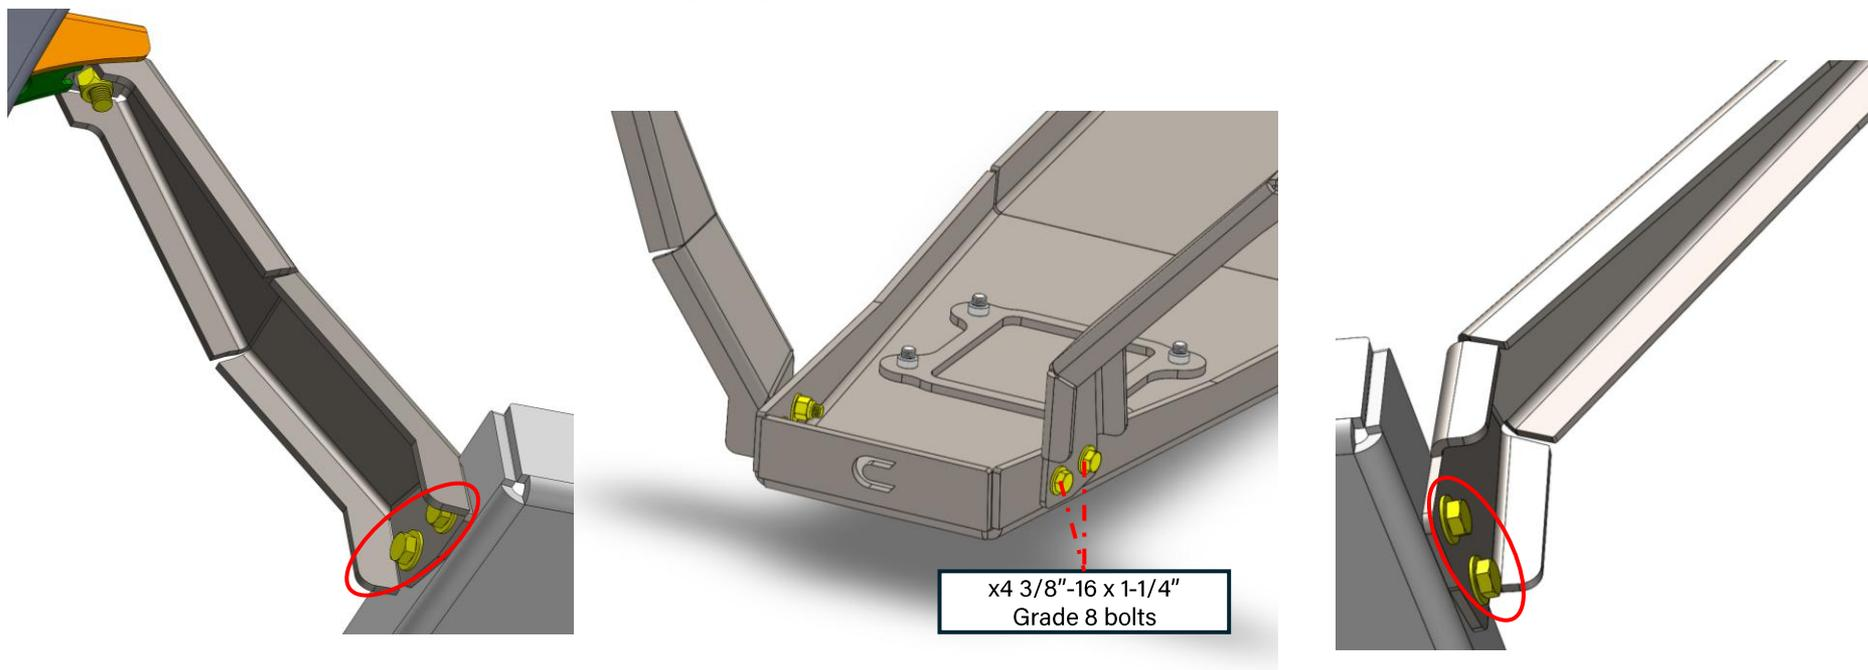

Figure 39: New skid plate installed at OEM 2.0L motor mount locations and skid plate connections
32. Move to the front of the skid plate to install the remaining hardware. Install the x4 longer 3/8"-16 bolts through the holes on the engine skid plate brackets and feed them through the skid plate. **Use x2 washers for each bolt** as seen below in Figure 39. **Loosely** fasten the bolts on the inside of the skid plate with the provided lock nuts.